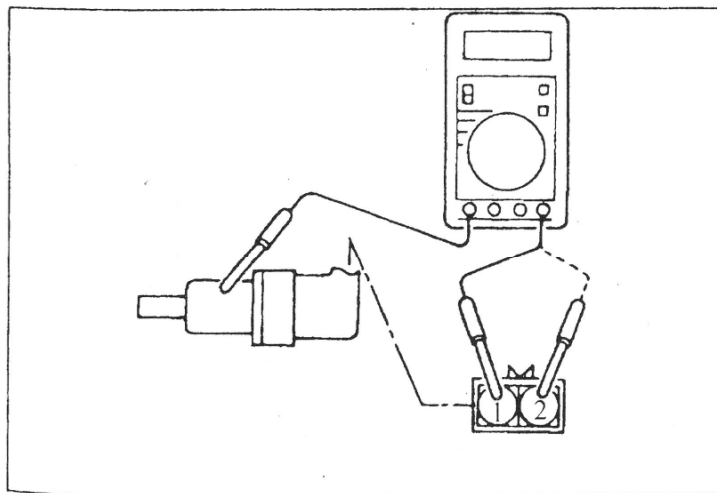

Fig. 16-67
1) Remove all connections from the speed sensor ,and then measure the resistance between terminals No.1 and No.2 and the body of the speed sensor. see Fig. 16-67.